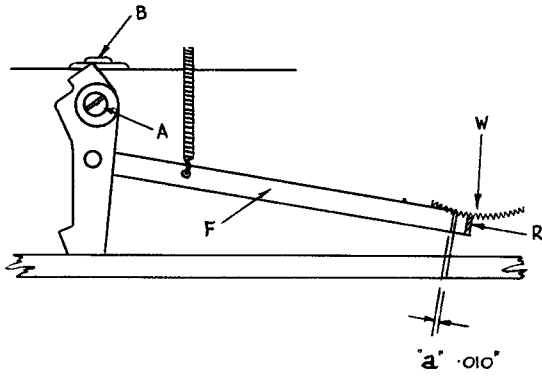

FIG. 31.
51. PUSH THE CARRIAGE TO ITS EXTREME RH POSITION & ADJUST THE CARRIAGE FEED PAWL .010" FROM THE NEXT TOOTH OF THE RATCHET USING ECCENTRIC A. (DIMENSION "a" FIG 31). LOCK BY SCREW B.